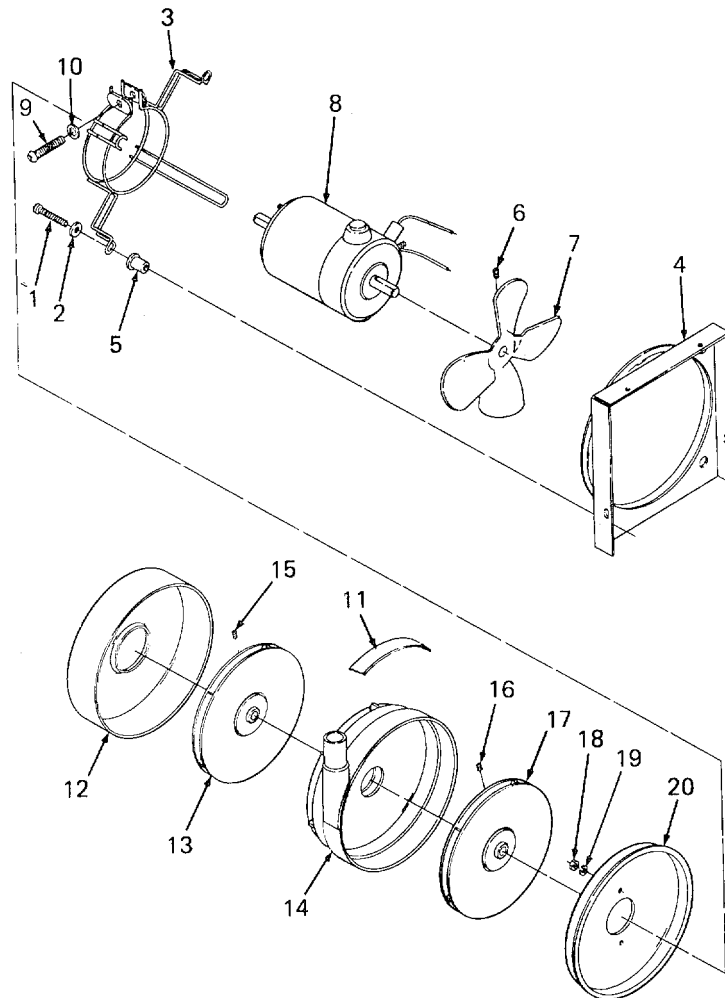

Figure 5-6. Repairing Blower/Motor/Vent Assembly.
DISASSEMBLY (Figure 5-6)
ASSEMBLY (Figure 5-6)
3. Position blower wheel (17) on motor shaft, aligning set screw (16) with flat on motor shaft, and secure.
4. Position fan combustion air subassembly (14) over blower wheel (13), making sure it is aligned as shown in Figure 5-6.